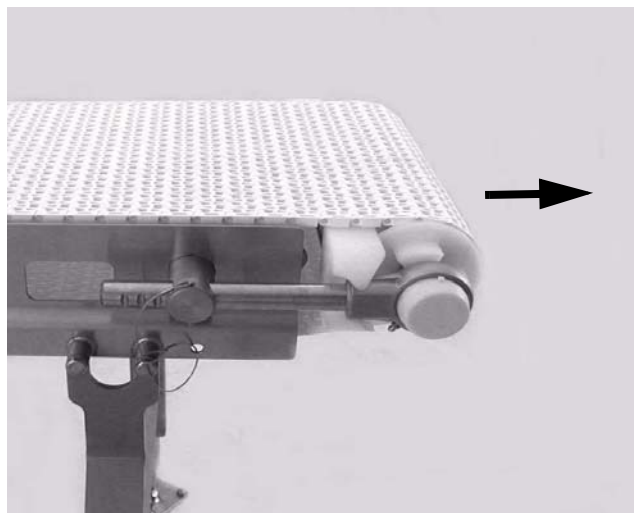
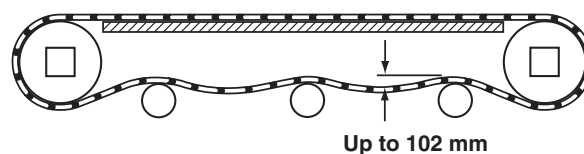

Figure 35
Figure 40
7. Extend the tension end to remove excess slack in the belt (**Figure 35**). Reference (**Figure 40**).
4. Check belt sag by measuring from the top of the return (**Figure 40**). Belt sag should not exceed 102 mm (4"). Follow steps 7 – 9 in the "Belt Installation" section on page 13 to remove slack from the belt.